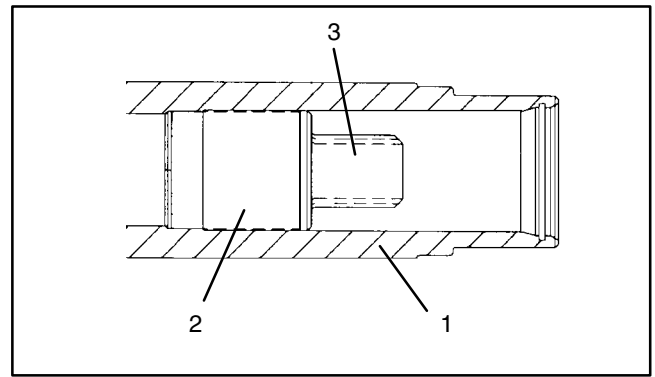

Figure 19
- C. Check the drive adapter inside of the reel shaft (Fig. 19). The adapter should be free of bending and distortion. Check the splines for excessive cracks or distortion. Replace the reel if necessary.